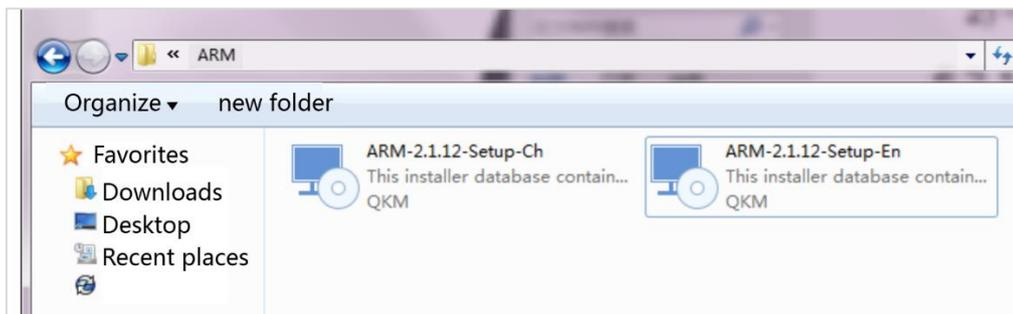

Figure 6-1 Installation package
**Step 1** Download an ARM installation package at the official website of QKM,as shown in Figure 6-1.